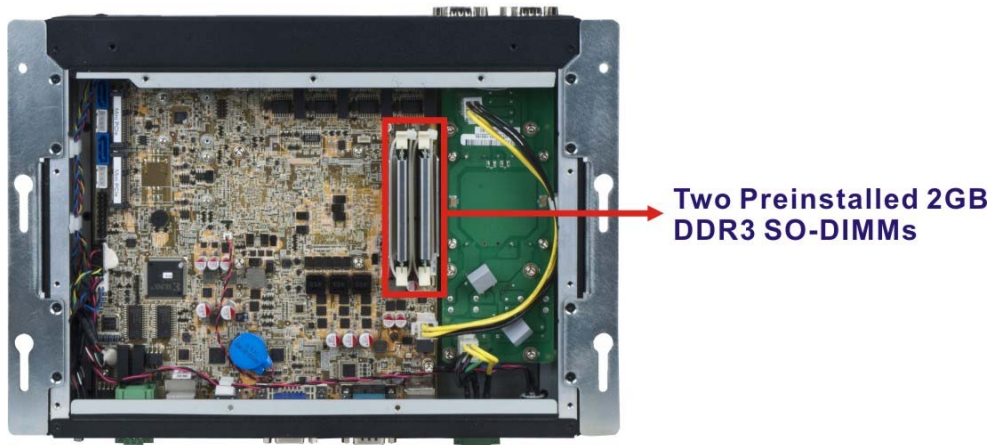

Figure 5-2: SO-DIMM Locations
Step 2: Locate the SO-DIMM. (Figure 5-2).